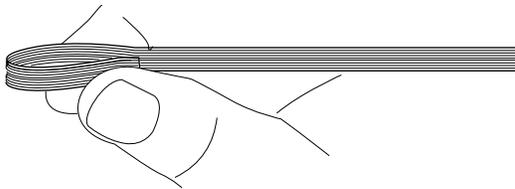

Figure 26
- Snap the end of the ribbon, bending the ribbon flat against itself to get a clean break (Figure 26).